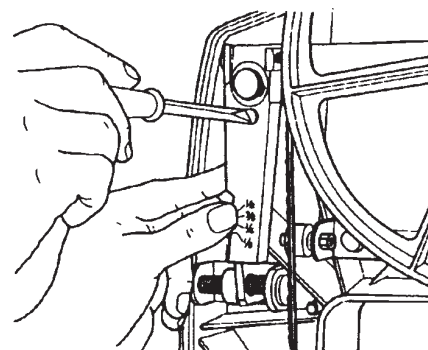

Fig. A-3
2. Loosen the screw (10) near the top of the scale, as seen in Fig. A-3.